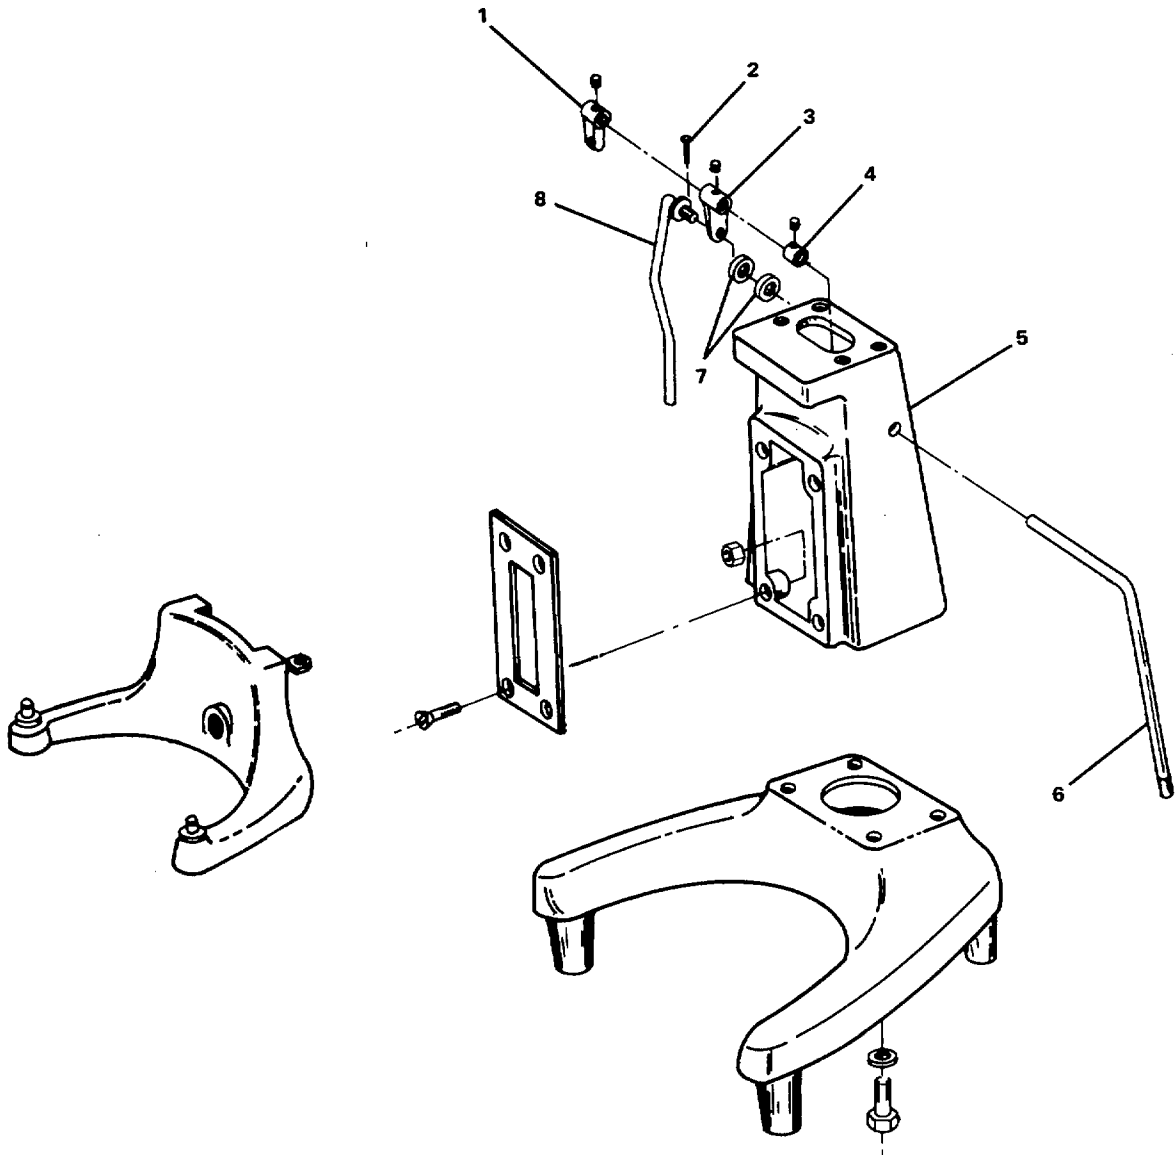

FIGURE 3-70. *Repair Column and Base Assembly.*
**3-68. Repair Column and Base Assembly. (Figure 3-70)**